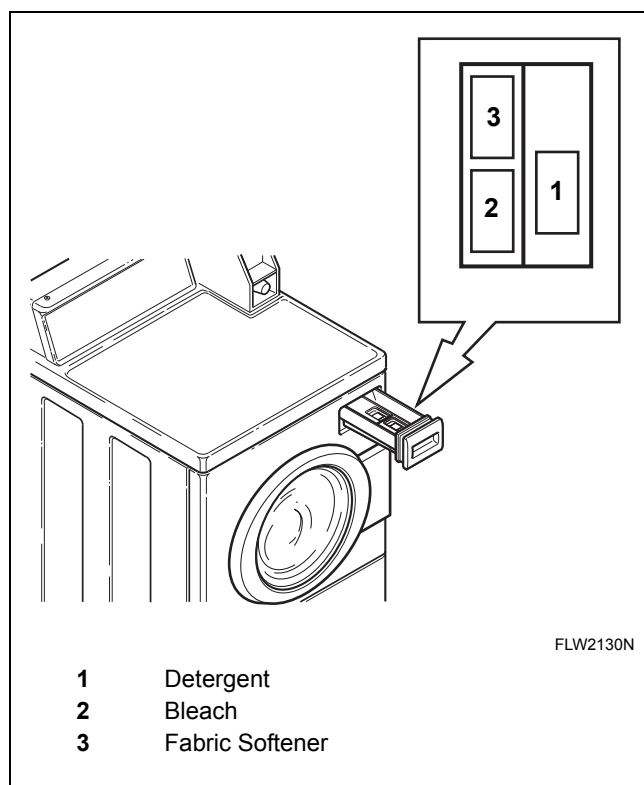

Figure 26
Open dispenser drawer. Measure and add low sudsing, high efficiency (HE) detergent (1), bleach (2) and fabric softener (3) to the dispenser drawer (refer to *Figure 26*). Close dispenser drawer.